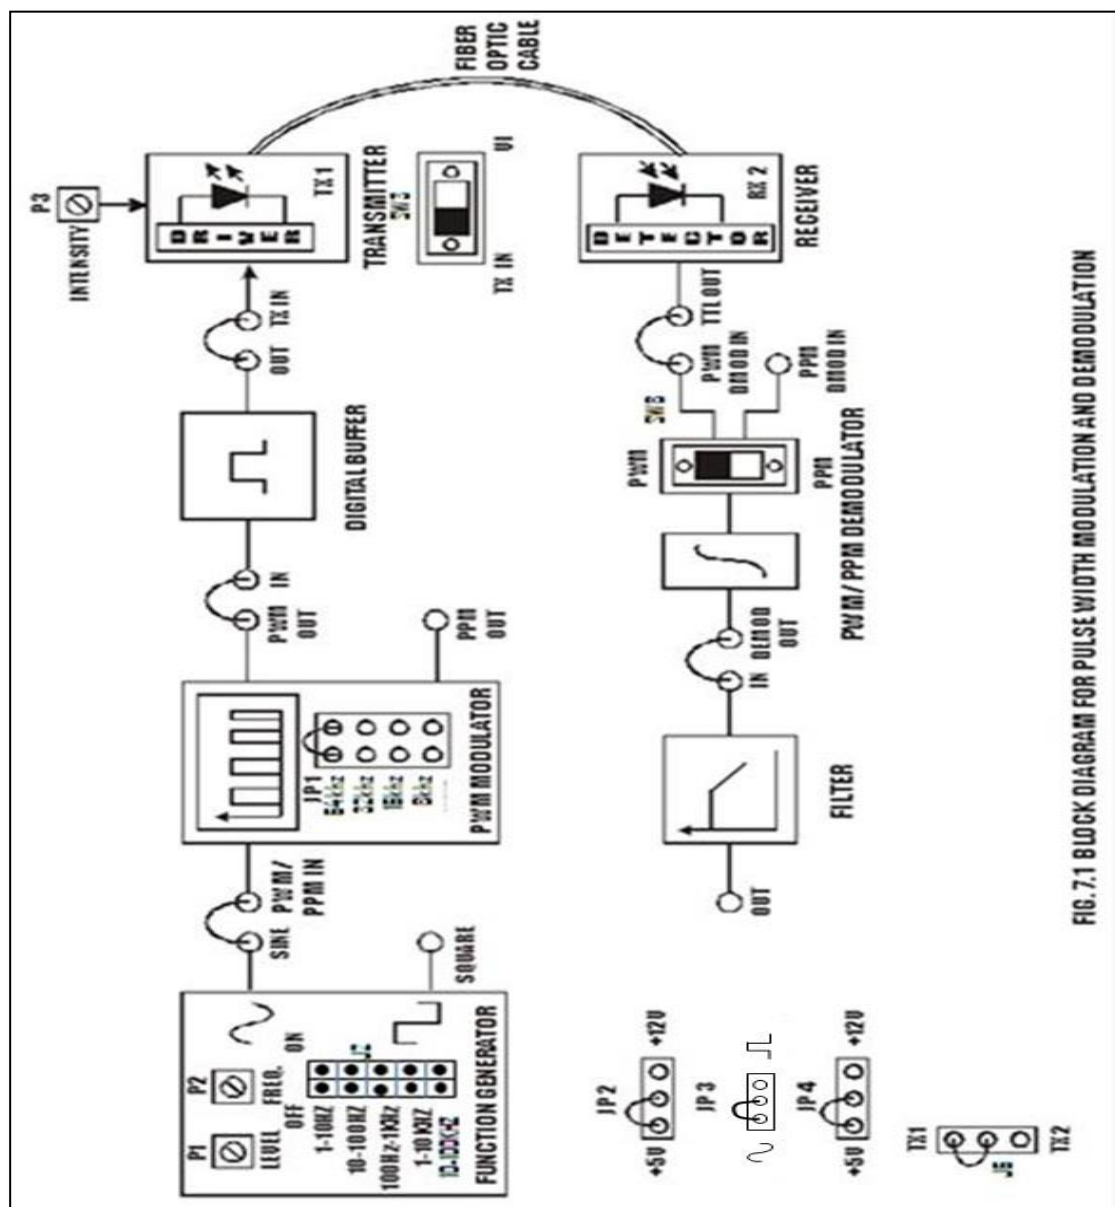

FIG. 7.1 BLOCK DIAGRAM FOR PULSE WIDTH MODULATION AND DEMODULATION
- Make the connections and jumper settings as shown in **FIG. 7.1** Connect the power supply cables with proper polarity to kit. While connecting this, ensure that the power supply is OFF. Now switch on the power supply.